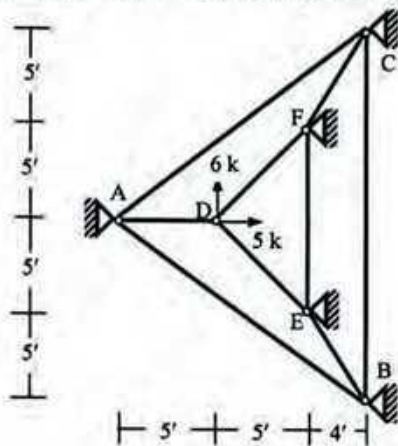

Fig 1
1. For the truss shown in *Fig. 1*, ignore the zero-force members and apply the boundary conditions to determine the value of unknown joint displacements [Given: $S_x = 1000 \text{ k/ft}$].
10. For the plane truss shown in *Fig. 1*, applying boundary conditions calculate its natural frequencies using consistent mass matrices [Given, $E = 30000 \text{ ksi}$, $A = 2 \text{ in}^2$, $m = 1.5 \times 10^{-6} \text{ k-sec}^2/\text{in}^2$].
1. For the truss shown in *Fig. 1*, ignore the zero-force members and apply the boundary conditions to determine the value of unknown joint displacements [Given: $S_x = 1000$ k/ft].
10. For the plane truss shown in *Fig. 1*, applying boundary conditions calculate its natural frequencies using consistent mass matrices [Given: $E = 30000$ ksi, $A = 2$ in², $m = 1.5 \times 10^{-6}$ k-sec²/in²].